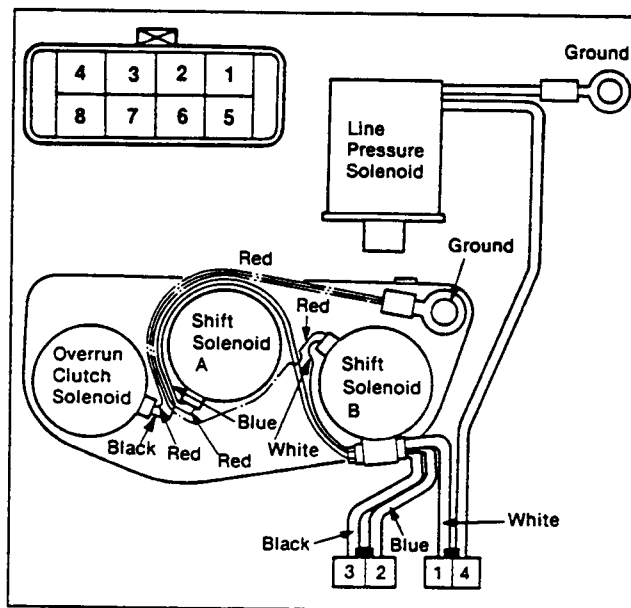

Figure 91. Three Combined Solenoid Resistance Check
3. Check resistance across the three combined solenoid (overrun clutch solenoid, shift solenoid A, B) terminals using a circuit tester (figure 91).